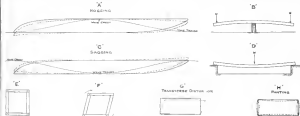

FIG. 1. STRESSES ON THE FLOAT
the two ends of the float, with the middle in the trough of the wave. In this condition the middle of the float will tend to drop relatively to the ends. This bending is termed "hogging" (Fig. 1-C), and when in this condition the float can be likened to a beam supported at the ends and weighted in the middle (Fig. 1-D). Under these circumstances the heavy members of the structure of the float, such as the keel, keelson,
(1) Suppose the float is supported in the middle on a wave and the ends unsupported by being in the trough; the resistance to the ends will tend to drop relatively to the middle. This bending of the float is termed "hogging" (Fig. 1-C). This condition, though only momentary, is comparable to a beam supported at the ends and weighted in the middle (Fig. 1-D). Under these circumstances the upper members of the structure of the float, such as the deck stringers, planks, etc., are in tension, and the lower members are in compression.
(2) Now let us consider the opposite extreme. As the wave trough passes the float a position where there support
Take a square frame placed at the corners (Fig. 1-E), and move it back and forward after the manner of a ship riding (Fig. 1-F). The frame will distort, but will not break at the corners. This distortion is found in the float structure at the deck edge and close corners (Fig. 1-G). Therefore, the construction at these points must be made very strong. The transverse bulkheads are most effective in preventing this rocking.
The forward end of the float is subjected to severe loads from the waves, which tend to force the planking inward. This bending is termed "pooping" and is taken care of by special stiffening, either by stringers or by transverse floors. Similarly the stern tends to work out and is, and the deck to sag by the weight of the water when loaded in a wave (Fig. 1-H). The frames, floors and stringers resist this action and are therefore made sufficiently strong and are not spaced too far apart.